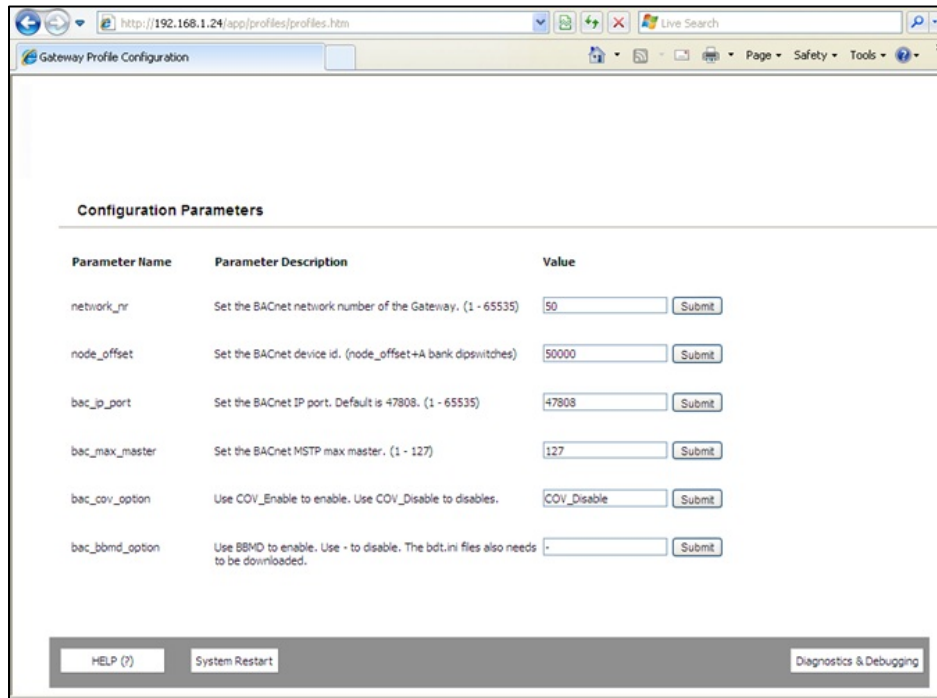

Figure 5-3: Changing IP Address using Main Landing Page for ProtoNode
- From the GUI main landing, click on Diagnostics and Debugging to get to the Utilities section of the GUI (to change IP Address and other capabilities). (Figure 5-3)